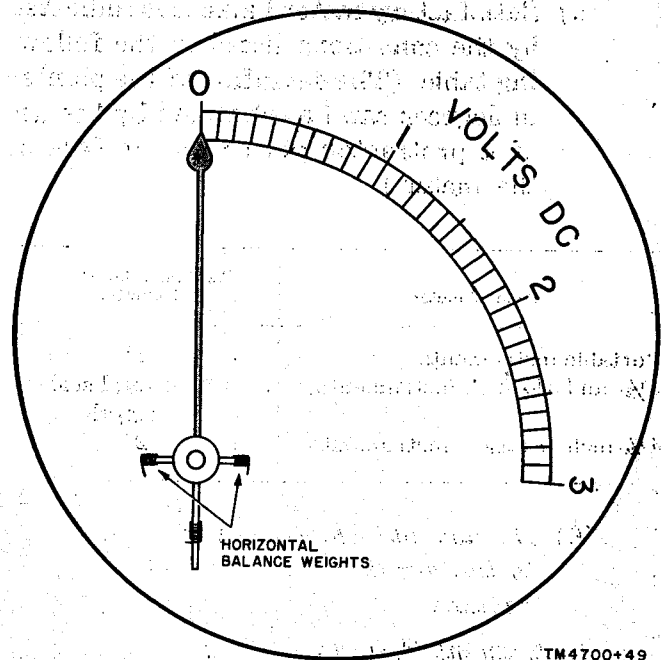

Figure 30. Horizontal balance weights.
- (1) Lay the meter flat on its back, and note the position of the pointer with relation to the zero calibration mark. If the pointer does not rest over the zero mark, operate the zero adjuster to correct the pointer to zero.
- (2) Place the meter in an upright position and turn it until the pointer is vertical. If the pointer is not at zero, the horizontal balance must be adjusted (fig. 30).